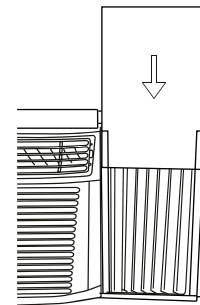

Fig.22
Step 3. Slide the R1 insulation panel into the side curtain, the side with pattern should facing the indoor(Fig. 22).